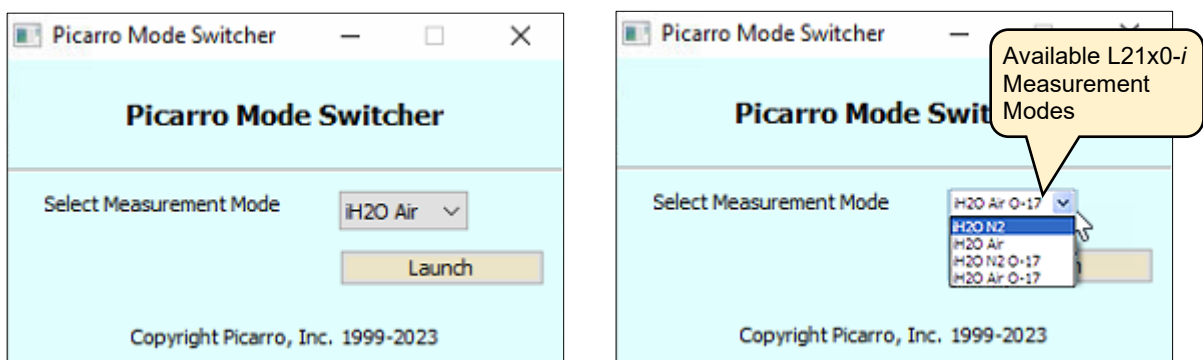

Figure 28: Picarro Mode Switcher
Picarro Mode Switcher (not present on all configurations): When clicked, a window opens (Figure 28) that allows you to switch between various measurement modes. Most analyzer models are configured for one mode and may not include the Mode Switcher. If the analyzer has multiple modes, this allows the user to switch between them easily.
1. Activate the mode switcher interface by double-clicking the Picarro Mode Switcher icon on the desktop (Figure 28).